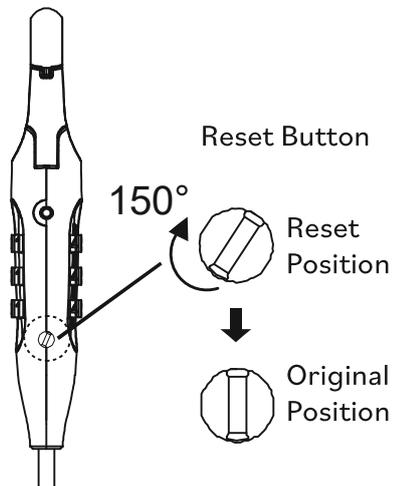

Fig. 12
d. Return the Reset Button back to Original Position. Your lock is now ready to open at its new combination. (Fig. 12)